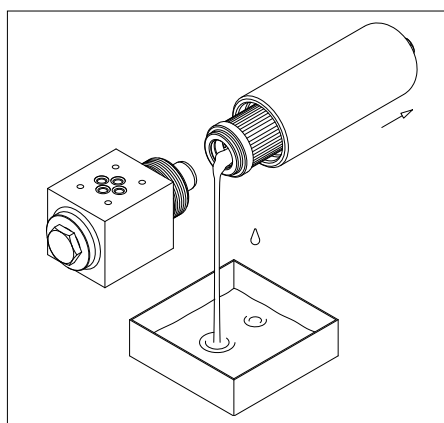

fig. 11
- (Fig. 11) Pull the filter element out together with the bowl and drain the fluid from the cap hole